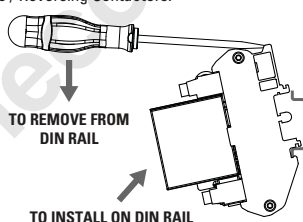

fig. 1 Mounting/Dismounting contactor on DIN rail.
- Install the contactor on the DIN rail as shown in fig. 1. Vertical mounting operation is recommended.